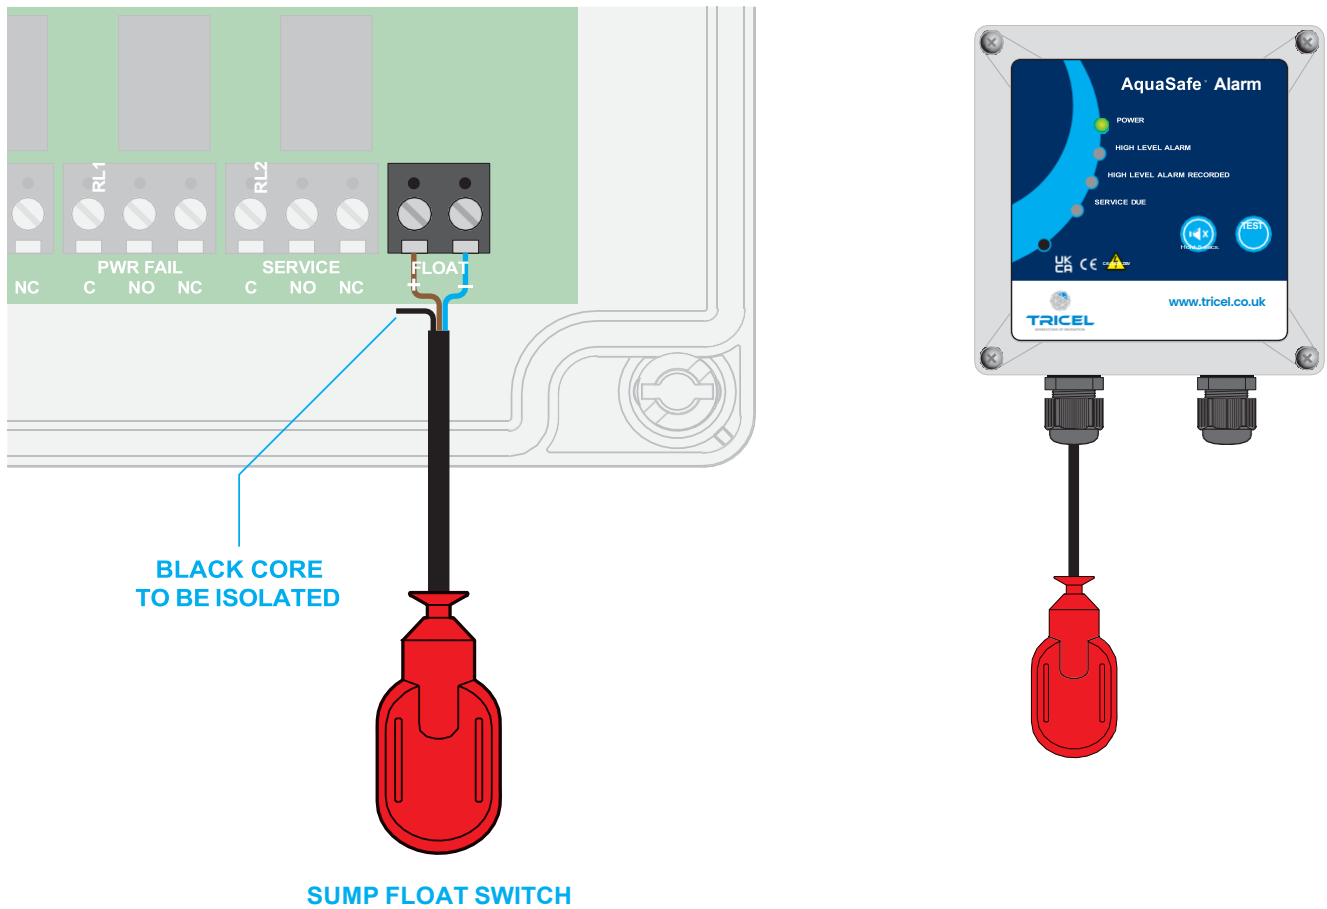

Figure 7. Connecting the sump float to the AquaSafe Alarm.
3. Connect the brown core to positive and the blue core to the negative terminal, as shown in Figure 7.